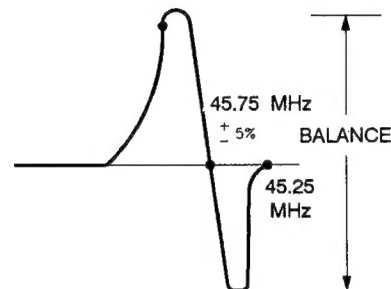

Fig.6
3. Adjust VR302 to obtain the waveform as in Fig.6.